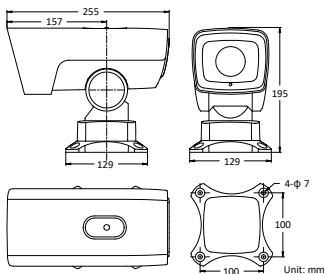

Figure 2-55 Base-mounted PTZ Bullet Camera
- Dimensions of base mounted PTZ bullet camera is shown in Figure 2-55.